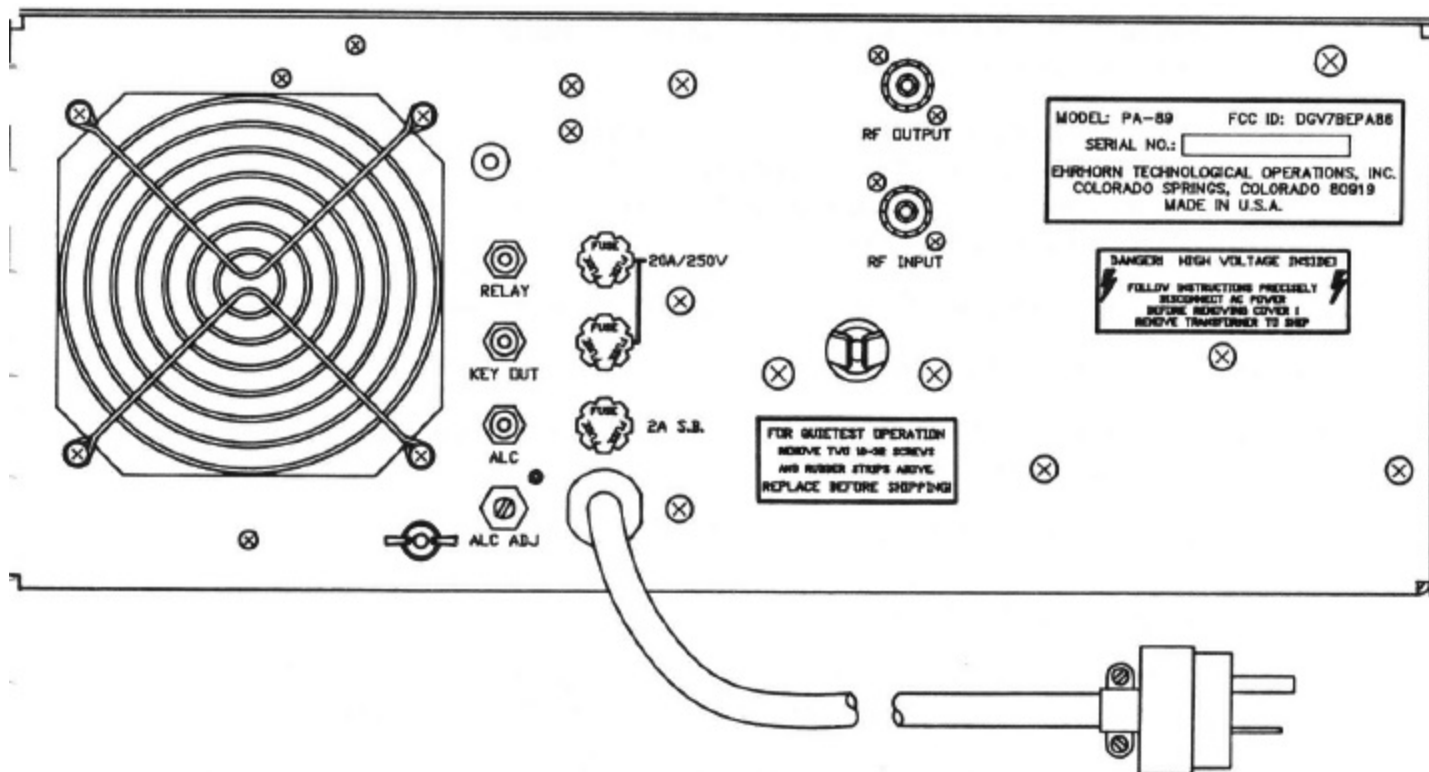

FIGURE 7
6.0 INSTALLATION (Refer to fig. 7, page 11)
Overdrive-related faults: These nearly always result from failure to set up the transceiver power controls (there may be two controls which interact) according to manufacturer's instructions. In the rare situation when transceiver output cannot be controlled adequately, with reference to page 2, item 1, ALC control feedback to the transceiver might help solve the problem if the transceiver has an external ALC input and a conventional negative-going-from-zero ALC system (Refer to fig. 7, page 7a for what follows.)